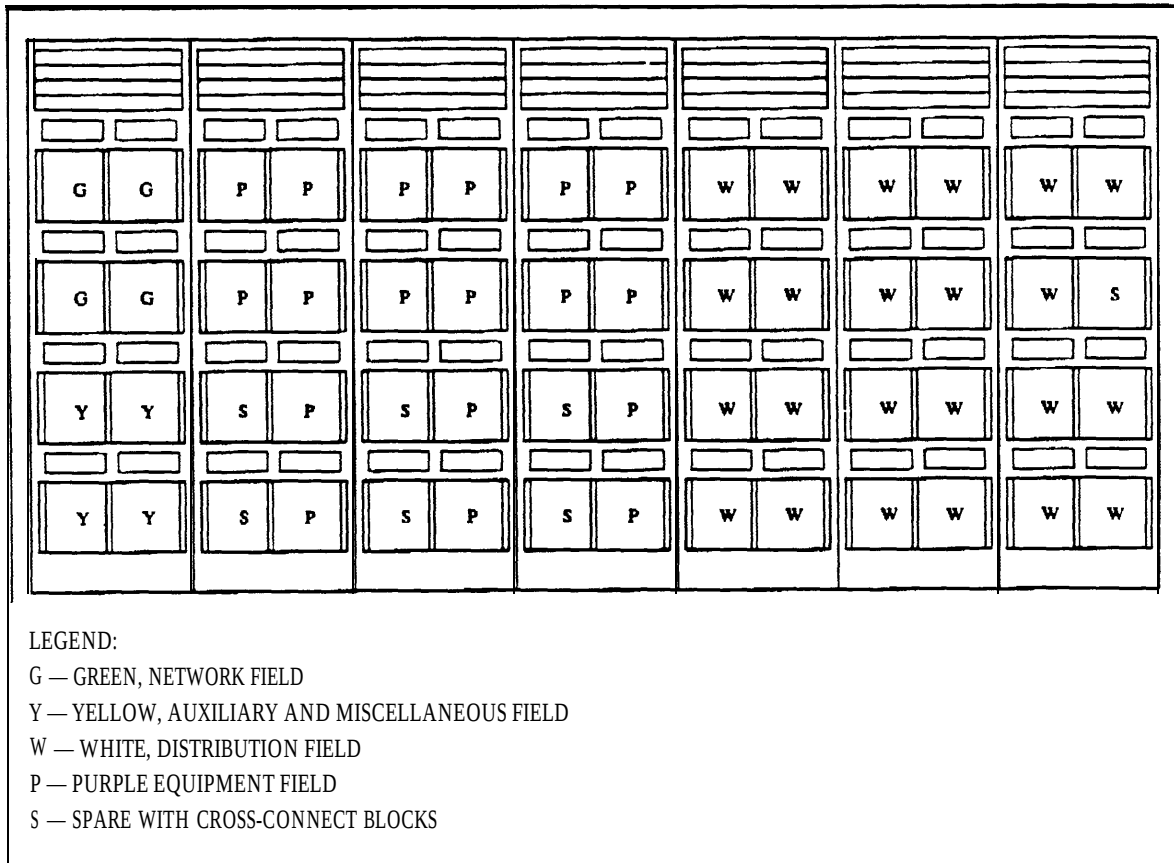

**Figure 2-3. Six Type-1 Frames with 18,000-Pair Capacity**
The type-1 frame shown in figure 2-3, *Six Type-1 Frames with 18,000-Pair Capacity*, is the most widely used. You can terminate 3000 cable pairs on each side. Cross-connections on the type-1 are made between the top and the bottom of the tie. This means that all equipment cables are connected to the top half of the frame and all distribution cables to the bottom half. Exceptions occur only at the green (CO) and yellow (miscellaneous) fields.